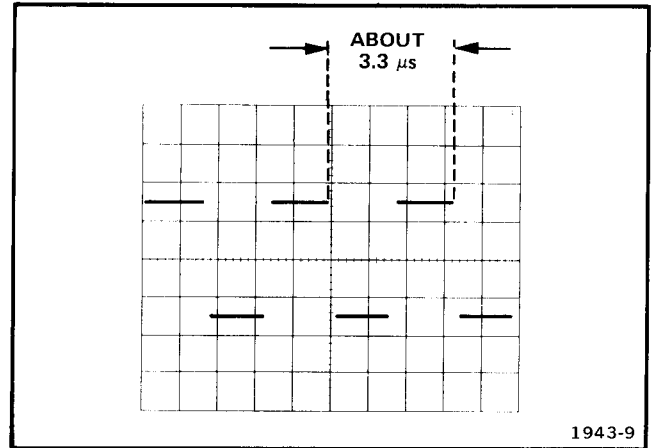

Fig. 5-9. Chopped waveform.
d. CHECK—Duration of one cycle is about 3.3 μ s (see Fig. 5-9).